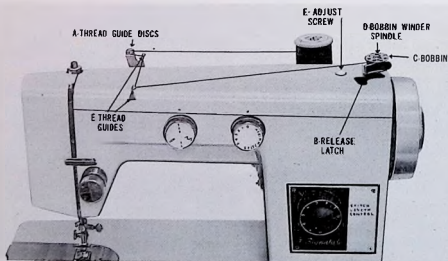

Fig. 2 Winding the Bobbin
2. Lower the presser foot (N) Page 2, by lowering the presser foot lever.
3. Now proceed as follows (see Fig. 2 below):
- a. Place the bobbin (C) on the bobbin winder spindle (D) and push it firmly against the spindle holder.
- b. By pressing the bobbin winder release lever (B) toward the bobbin, the bobbin winder spool is brought into contact with the hand wheel. To lock, press in until a "click" is heard.
- c. Place thread on spool pin on back of arm, run thread through thread guide discs (A) and through thread guides (E).